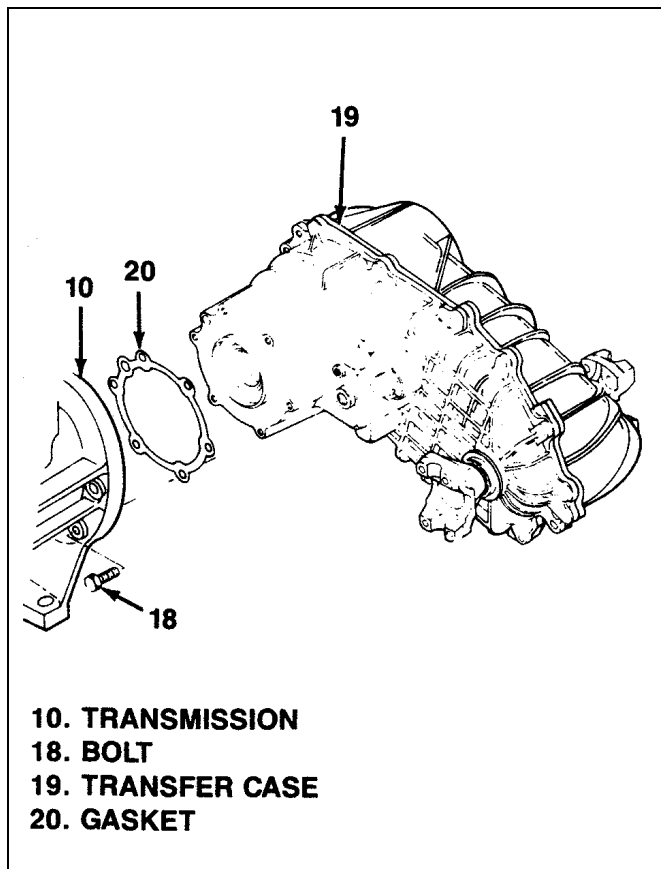

Figure 2-4. Transfer Case
Make sure transfer case is completely supported by jack or stand before removing bolts (18, figure 2-4) attaching transfer case to transmission. Do not allow transfer case to "hang" from transmission by splined shaft since this may damage input bearings.
- a. Apply thin coat of high temperature grease to output shaft spline on transmission (10, figure 2-4).
- b. Install new gasket (20) on transfer case (19) mounting face.
- c. Raise transfer case (19) on jack or stand. Align transfer case with transmission (10).